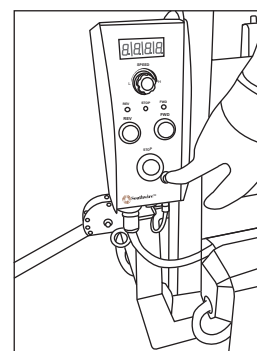

Fig. 6
5. Push on small green "Trigger Option" button on the Feeder control panel (7) (Fig 6).